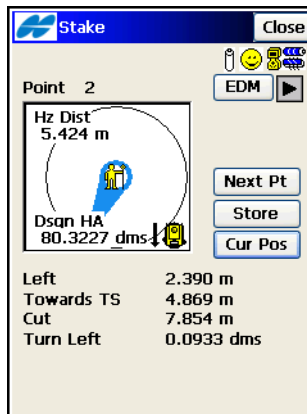

Figure 9-6. TS Stakeout
8. For TS: sight the prism. On the *Stakeout* screen (Figure 9-6 on page 9-5), use the **Cur Pos** button to take a measurement and then show the current position relative to the design point. Use the **EDM** button to select distance measurement mode, either *Coarse*, *Fine* or *Coarse Tracking*. The **Meas** button should be tapped once the current location is close enough to the desired point. Tapping the **Meas** button causes a measurement to be taken, and the computed coordinates to be stored to a point. Tap the **Next Pt** button to stakeout the next point in the data set.